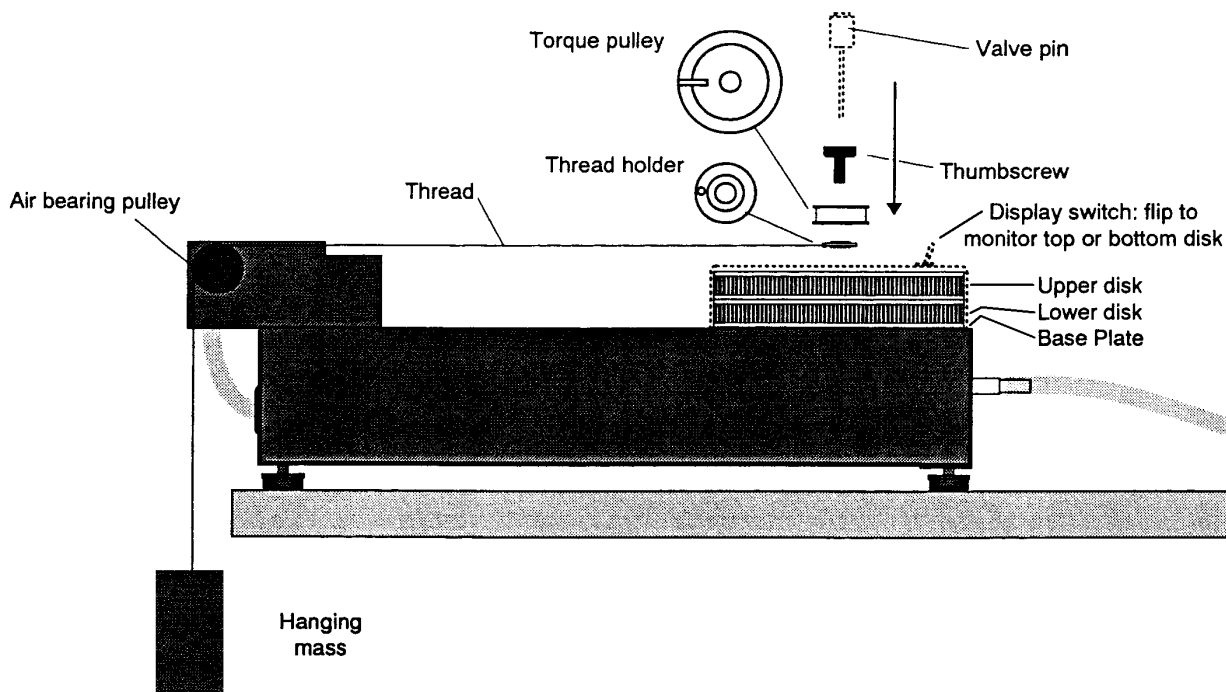
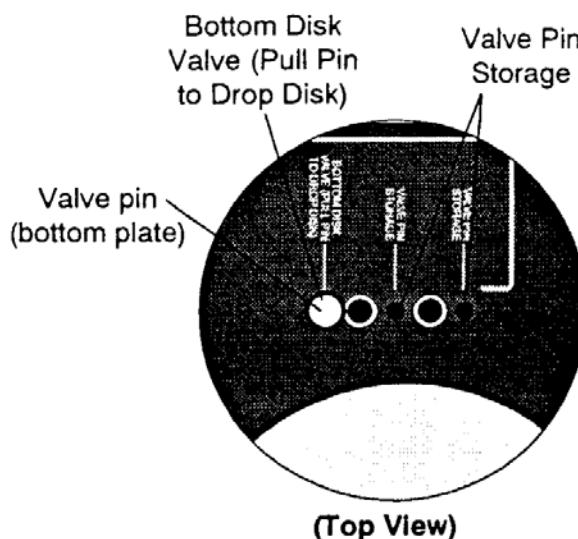

Fig. 3. Side view of rotational dynamics apparatus
Fig. 4. View of the pin storage area.
2. Arrange the Rotational Dynamics apparatus (see Fig. 3) so the air-bearing pulley extends over the edge of your lab table. Check with your instructor if you are unsure.
1. The two disks can spin independently or together, or the upper disk can spin while the lower disk does not (see Fig. 3). These options are controlled using the two valve pins that are provided with the unit. When not in use, these pins can be stored in the valve pin storage holes on the top of the base (see Fig. 4). Start with the pins in the storage holes.
3. Referring to Fig. 3, tie one end of the thread to the hole in the thread holder. Place the thread holder in the recess of the small torque pulley, with the thread passing through the slot in the pulley. Then use the thumbscrew to attach the pulley to the top of the rotating disk, with the flat side of the pulley facing up, so the thread holder is underneath the pulley. Tighten the thumbscrew so the pulley is secure. *Make sure that the string is not caught under the pulley!*